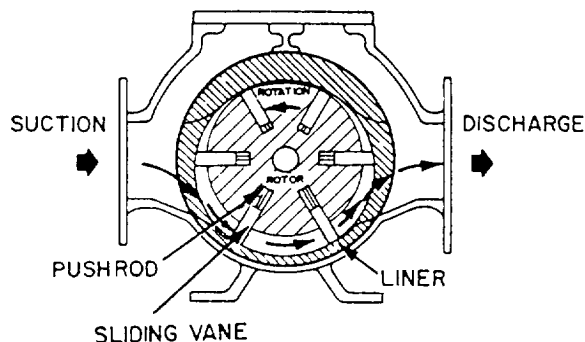

Figure 9-12.—Sliding vane pump.
**SLIDING VANE PUMPS.**— The sliding-vane pump (fig. 9-12) has a cylindrically bored housing with a suction inlet on one side and a discharge outlet on the other side. A rotor (smaller in diameter than the cylinder) is driven about an axis that is so placed above the center line of the cylinder as to provide minimum clearance between the rotor and cylinder at the top and maximum clearance at the bottom.